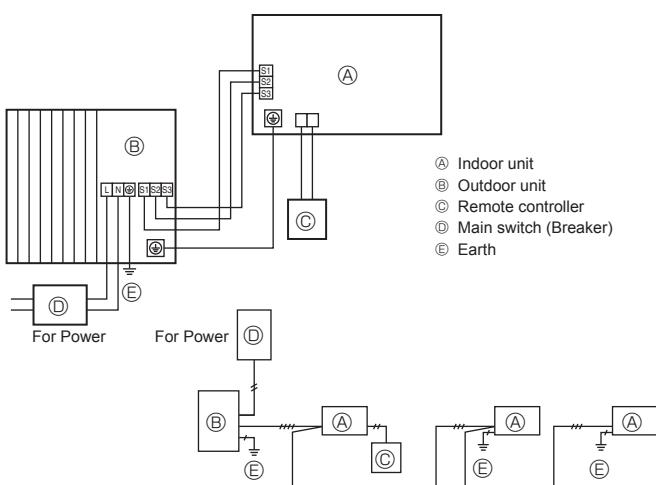
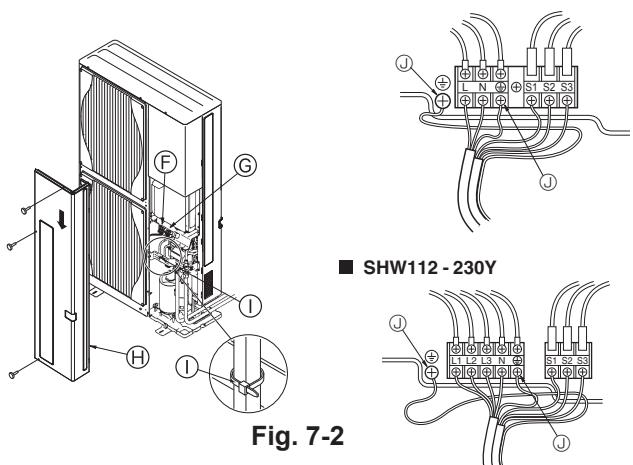

Fig. 7-1
Fig. 7-2
### 7.1. Outdoor unit (Fig. 7-1, Fig. 7-2)
- ① Remove the service panel.
- ② Wire the cables referring to the Fig. 7-1 and the Fig. 7-2.